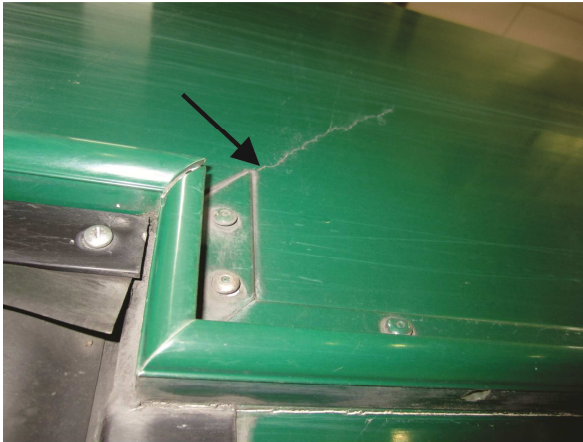

**FIGURE 4: VMM EXIT DOOR PANEL THAT WILL BE REMOVED AND SET OFF TO THE SIDE.**
11. Next disconnect the electrical plugs (x4) on the VMM exit door panel. Set harness aside out of the way. **For steps 11 – 12, see Figure 4.**